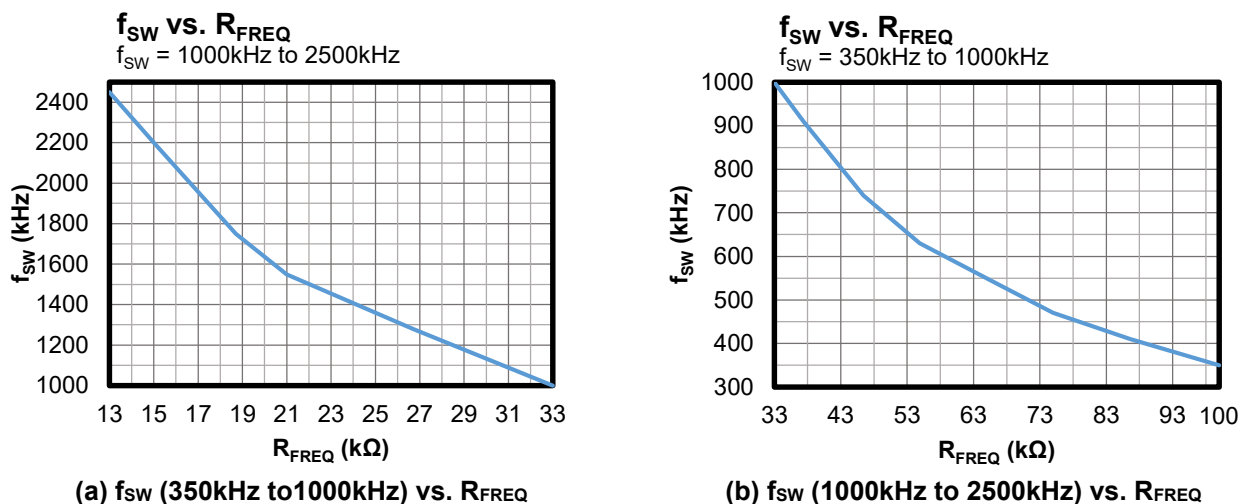

Figure 2: f_{SW} vs. R_{FREQ}
9. The MPQ4340A-6040's switching frequency (f_{SW}) can be configured via R10, the FREQ pin's resistor (R_{FREQ}). R10 can be estimated based on the relationship between f_{SW} and R_{FREQ} (see Figure 2 on page 4).